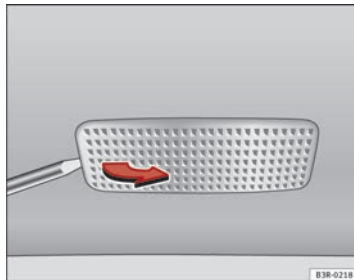

Fig. 227 Removing sun visor light
- Remove the bulb carefully, using the flat part of a screwdriver ⇒ Fig. 227.